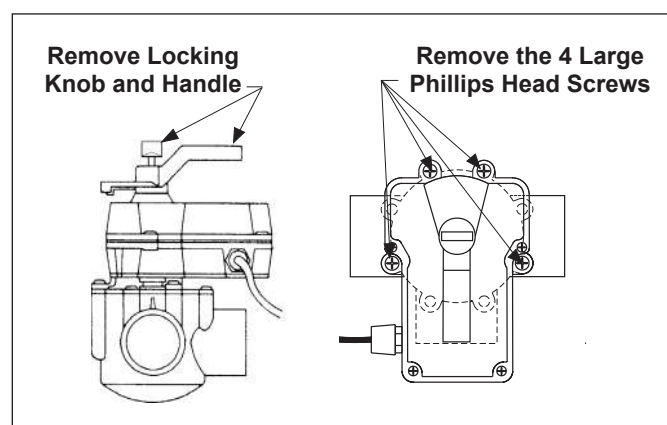

Figure 4. Remove Locking Knob and Lid Screws
1. Unscrew the locking knob by turning the knob counterclockwise. Remove the locking knob and valve handle (see Figure 4).
2. For standard valves, remove the four (4) large Phillips head screws from the valve. The location of the screws you remove will determine how the actuator will be mounted (see Figure 4). When installing the large 3" valve, it is not necessary to remove any screws.